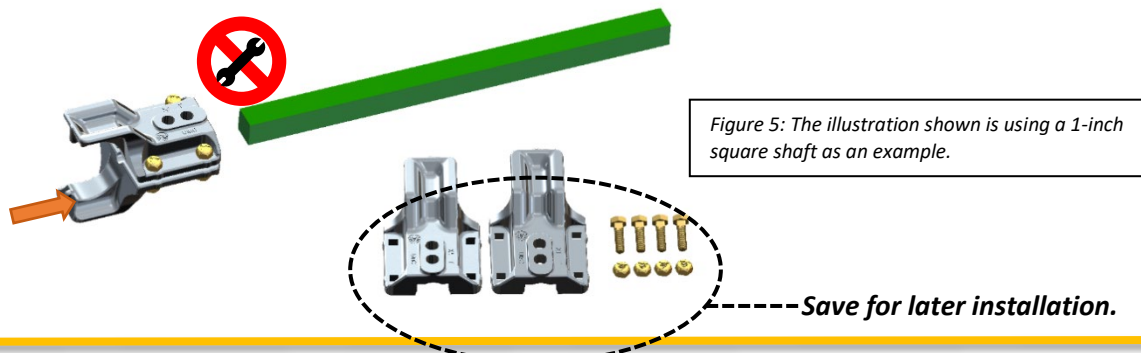

Figure 5: The illustration shown is using a 1-inch square shaft as an example.
3. Install only one set of couplers without the puck onto one end of the drive shaft. Save the remaining set for later installation, see Figure 5. **DO NOT TIGHTEN DOWN LOCK NUTS AT THIS POINT.**